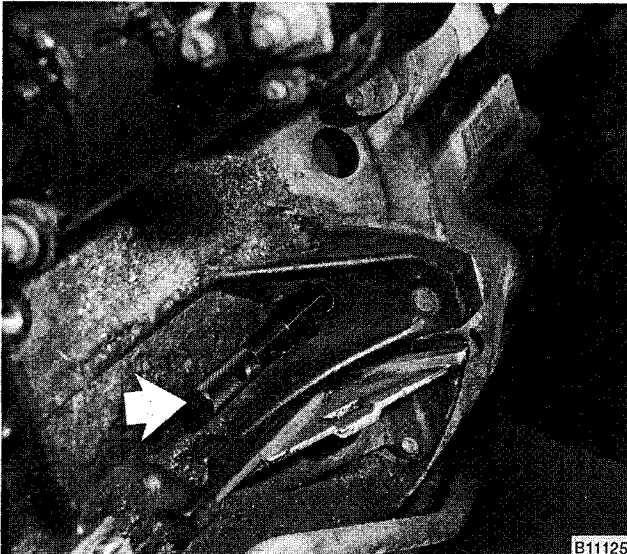

Fig. 11. BMW special tool no. 11 2 300 installed through bellhousing and into flywheel (arrow) to lock crankshaft at TDC.
26. Lock crankshaft in TDC position by inserting BMW special tool no. 11 2 300 through bore and into hole in fly-wheel or drive plate. See Fig. 11.